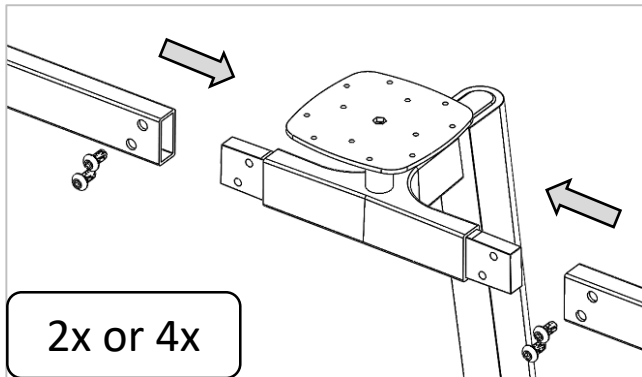

Figure 5.7
8. Using the assemblies from Figure 5.7, attach them to the Cross Brace Tube using the 3/8-16 x 0.75 Button Head Socket Cap Screws.